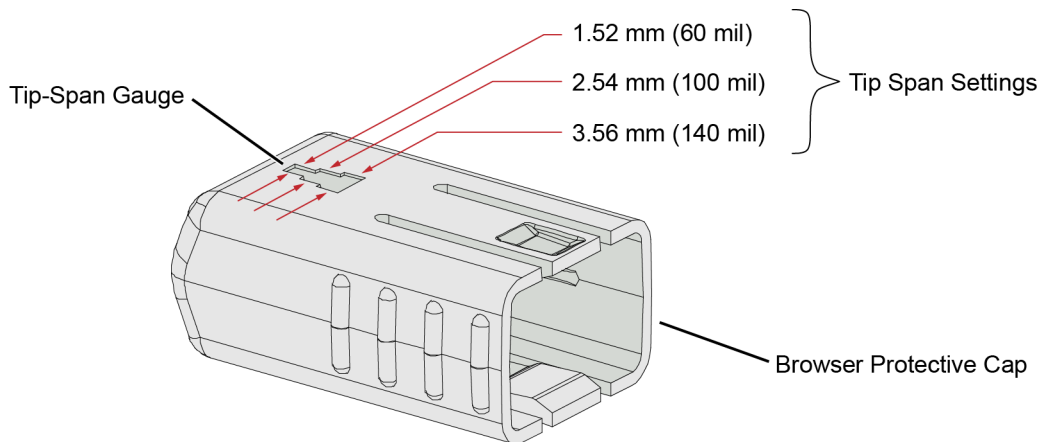

Figure 13 Tip Span Gauge on Browser Protective Cap
- 2 Locate the tip-span gauge on the browser’s protective cap as shown in **Figure 13**.